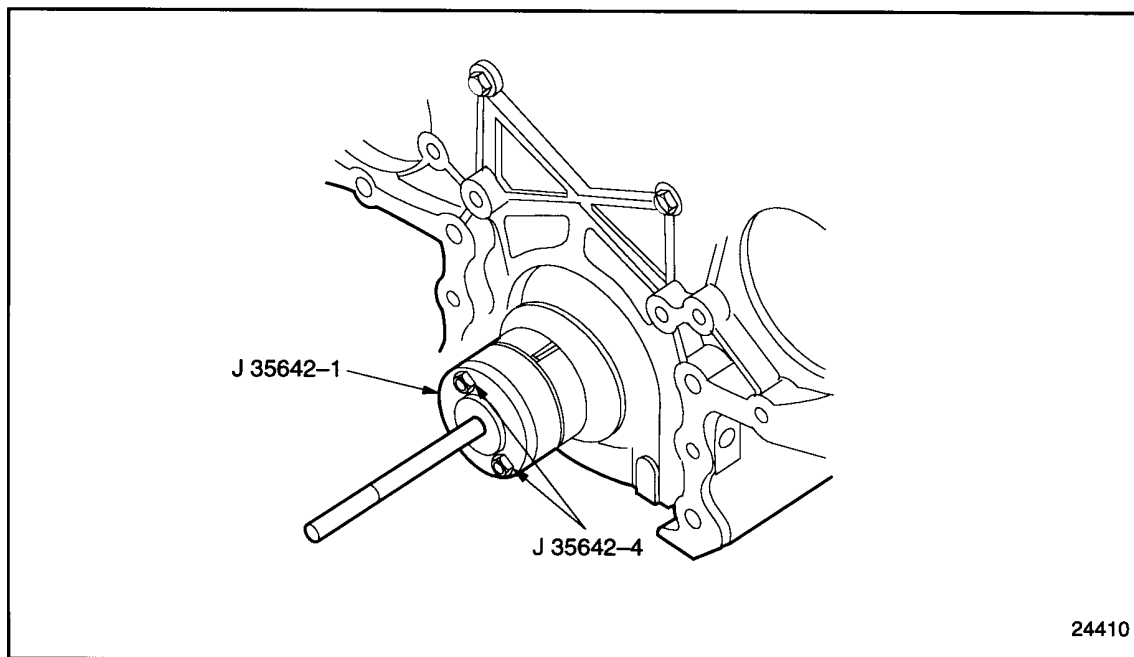

Figure 1-361 Base Post Installation
1. Install the base post, J 35642-1 part of J 35642, part of tool kit J 35642, to the end of the crankshaft, using two crankshaft pulley retaining bolts. Torque the bolts to 190-203 N·m (140-150 lb·ft). See Figure 1-361.